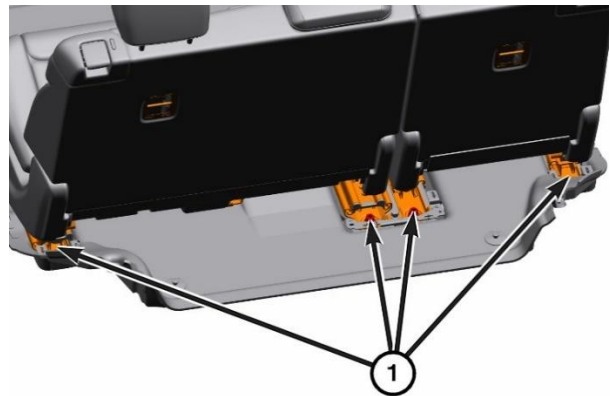

Figure 16 – Seat Rear Bolts and Nuts
9. Second row seat remove the rear seat to floor bolts and nuts (Figure 16).